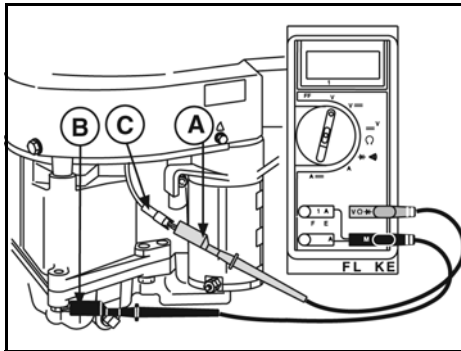

Figure 19
1. Insert RED test lead (A, Figure 19) into the V  $\Omega$  receptacle in the meter.
2. Insert BLACK test lead (B) into COM receptacle.
4. Attach RED test lead clip to AC output terminal (C).